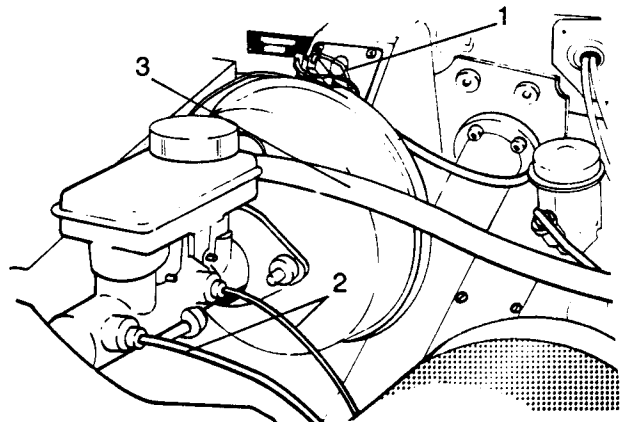

Fig K1.15
- (11) Refer to Fig K1.15. Connect the vacuum pipe (3) from the servo unit.
- (12) Reconnect the outlet pipes (2) to the master cylinder.
- (13) Connect the electrical leads (1) to the stop light switch.
- (14) Check, and if necessary, adjust the brake pedal switch located on the pedal box top cover to operate at 19 mm to 25 mm of pedal movement.
- (15) Bleed the complete braking system (see Sub-sub-section K1.6).